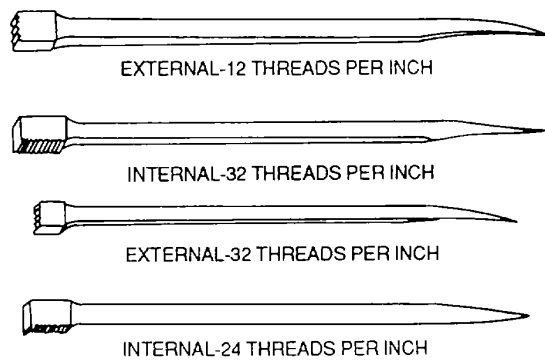

Figure 4-106. Thread Chasers
**4-19. Thread Chasers.** Thread chasers are threading tools that have several teeth and are used to rethread (chase) damaged internal or external threads. These tools are shown in figure 4-106. The internal thread chaser has its cutting teeth located on a side face, while the external thread chaser has its cutting teeth on the end of the shaft. The handle end of the tool shaft tapers to a point.